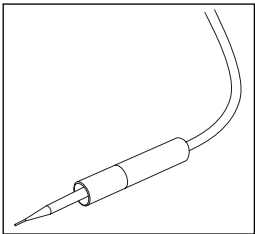

Figure 5.10
1. Be sure to use the dispenser with the larger dispense tip (Figure 5.10). For more information, refer to the **Parts List** in *Section 9, Service and Maintenance*.